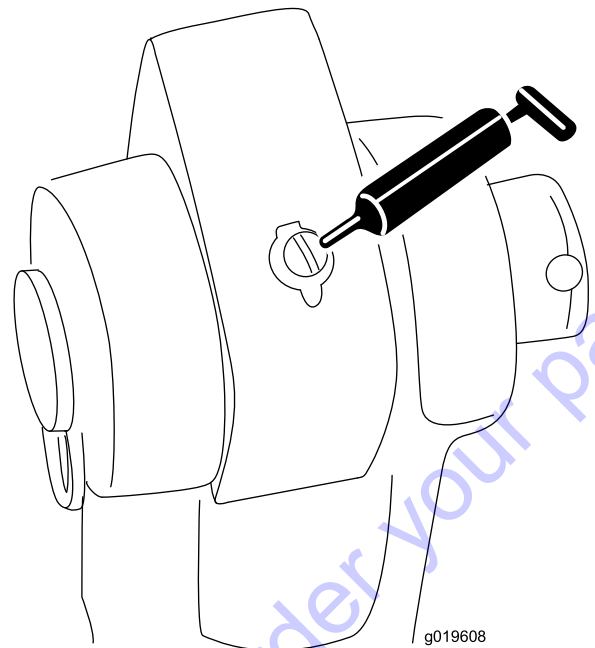

Figure 17
- Cylinder pivots (Quantity 2)—Figure 17